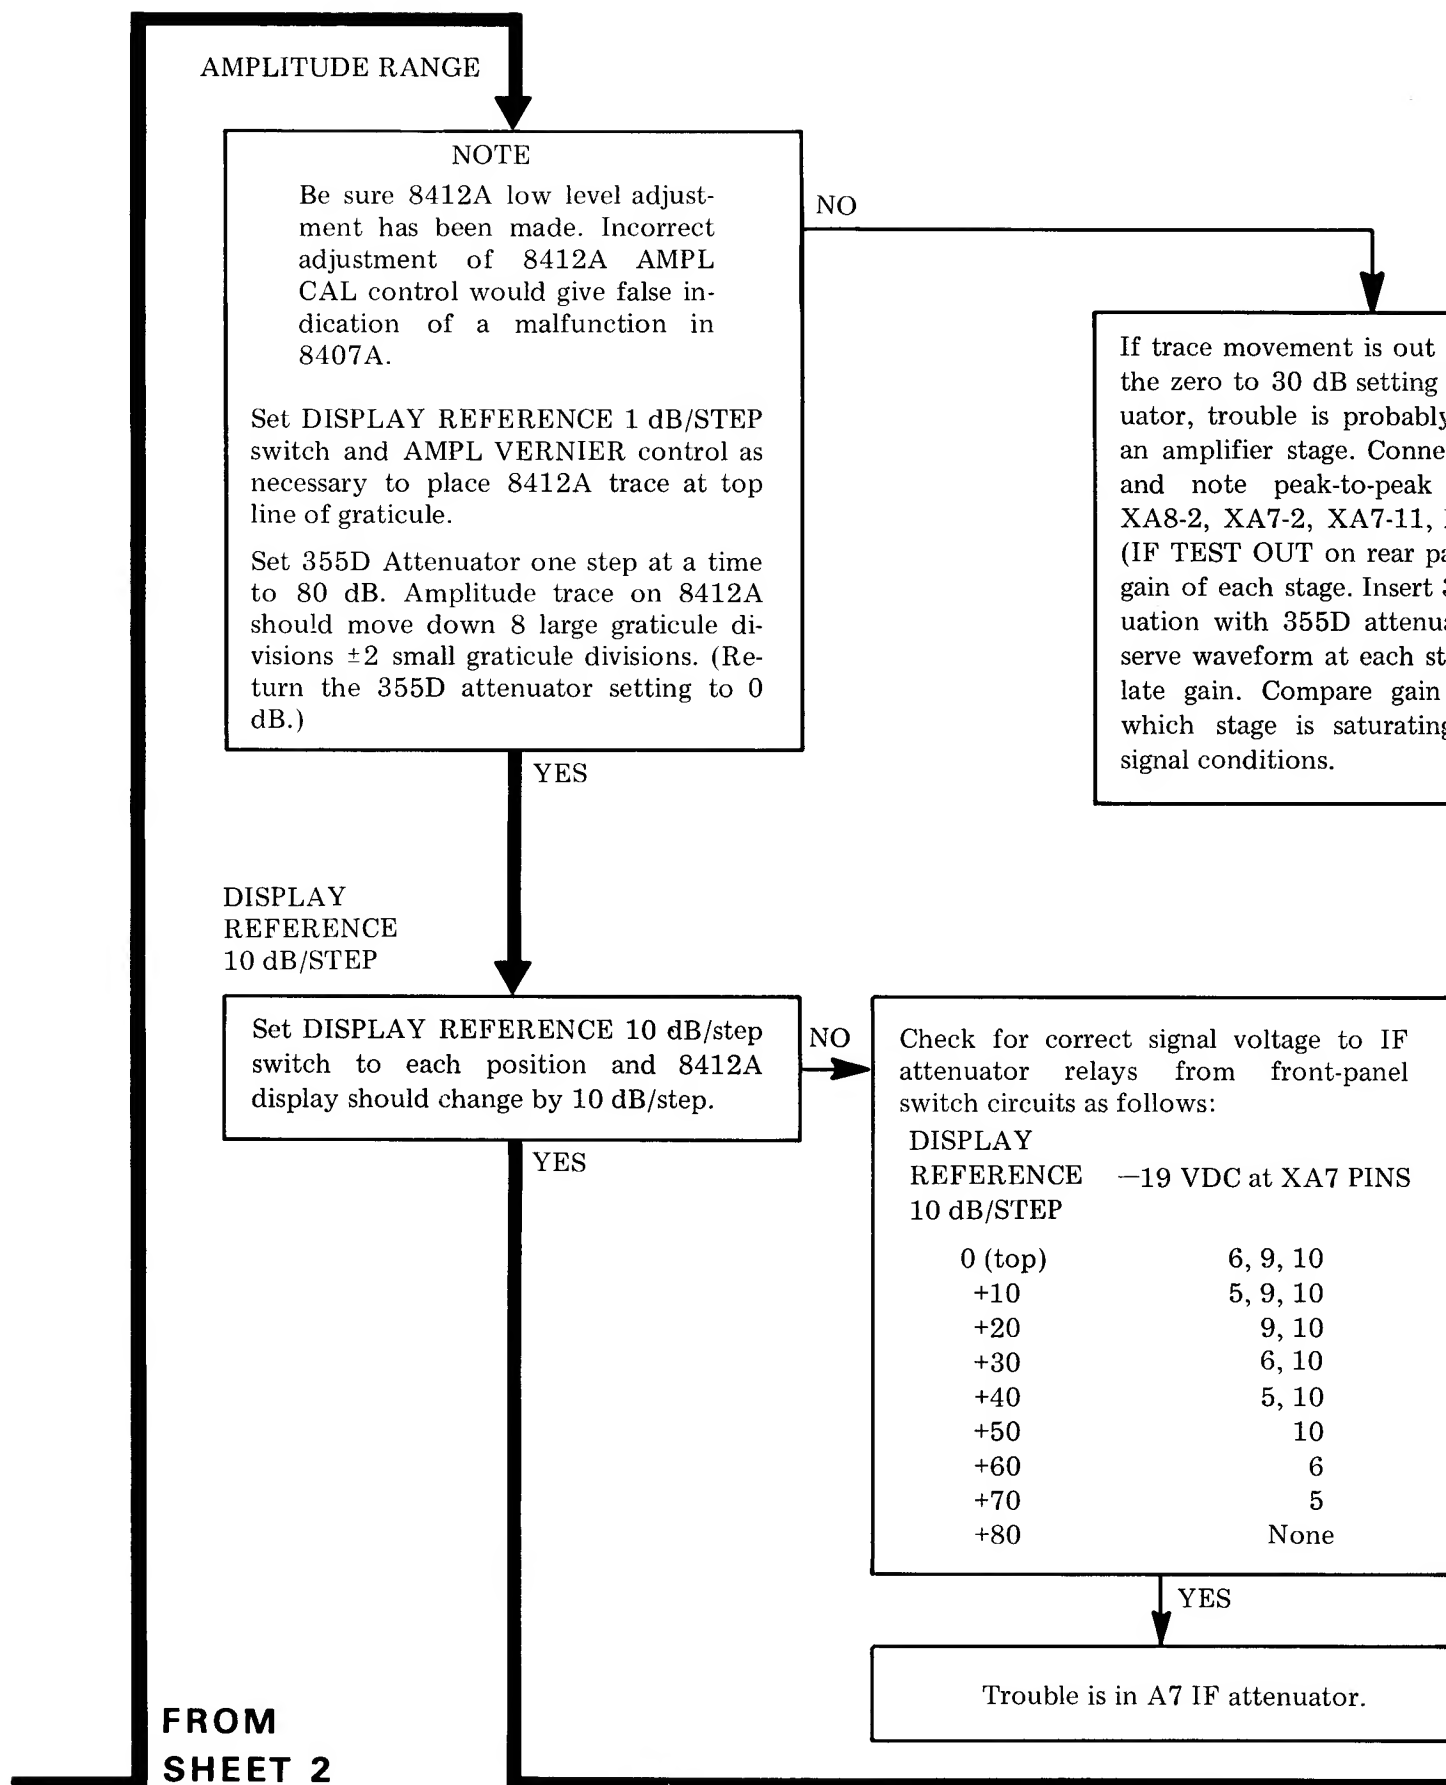

Figure 7-5. Troubleshooting Tree (3 of 3)
**TO SHEET 3***Figure 7-5. Troubleshooting Tree (2 of 3)*